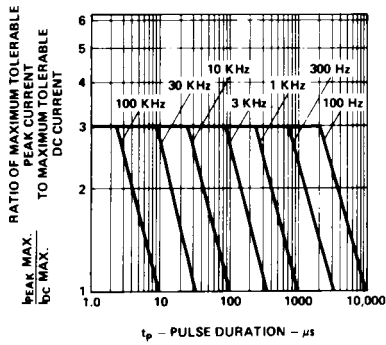

Figure 5. Maximum Tolerable Peak Current vs. Pulse Duration. ($I_{DC\ MAX}$ as per MAX Ratings).
- See Figure 5 (Red/Orange), 10 (Yellow), or 15 (Green) to establish pulsed operating conditions.